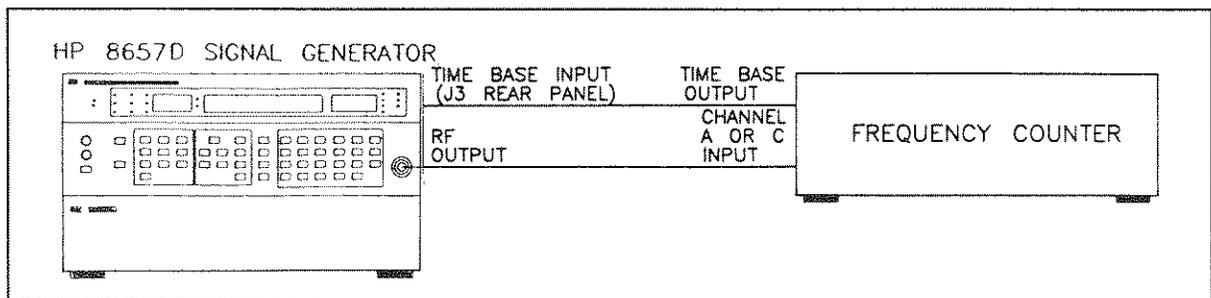

Figure 4-9. DC FM Test Setup
26. Connect the RF OUTPUT from the HP 8657D to the INPUT of the frequency counter, and connect the HP 8657D TIME BASE INPUT to the Frequency counter TIME BASE OUTPUT as shown in Figure 4-9.